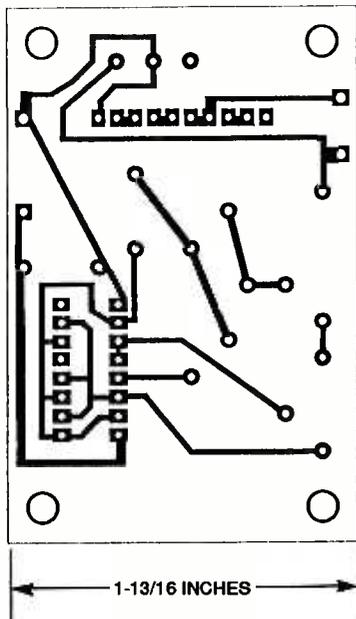
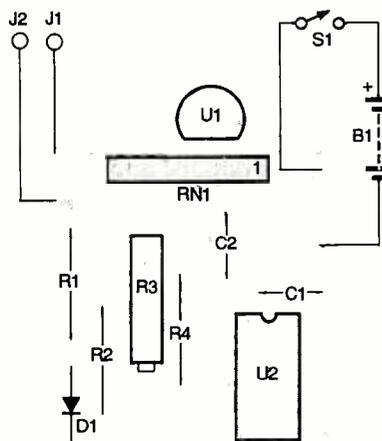

Fig. 2. Use this template to etch your own Calibrator PC board.
Fig. 3. When mounting the components on the board, use this parts-placement diagram as a guide.
**Construction.** The author's prototype circuit was wire-wrapped on a perforated board. Layout of the parts is not critical, and for that reason, any standard project-building method can be used. However, for those who wish to build the Calibrator on a printed-circuit board, a foil pattern is shown in Fig. 2. Follow the parts-placement diagram shown in Fig. 3 if you choose to make your own PC board.